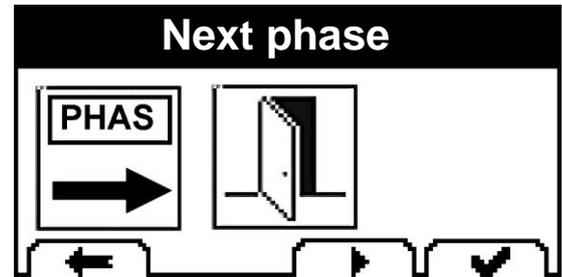

Fig. 5.13
- Programme a new phase or access the programming for cooling. (Fig. 5.13)